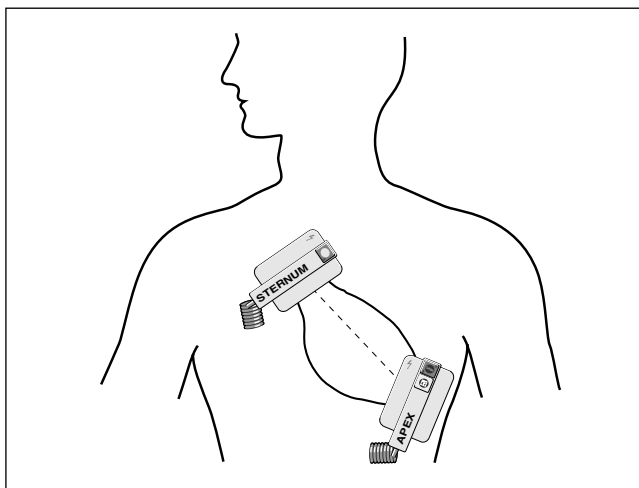

Figure 5-6. Paddle placement
- * Apply the electrodes to the patient’s thorax so that the greatest possible amount of energy flows through the myocardium (the imaginary connecting line between the two electrode centers should be identical with the cardiac median line; Figure 5-6).